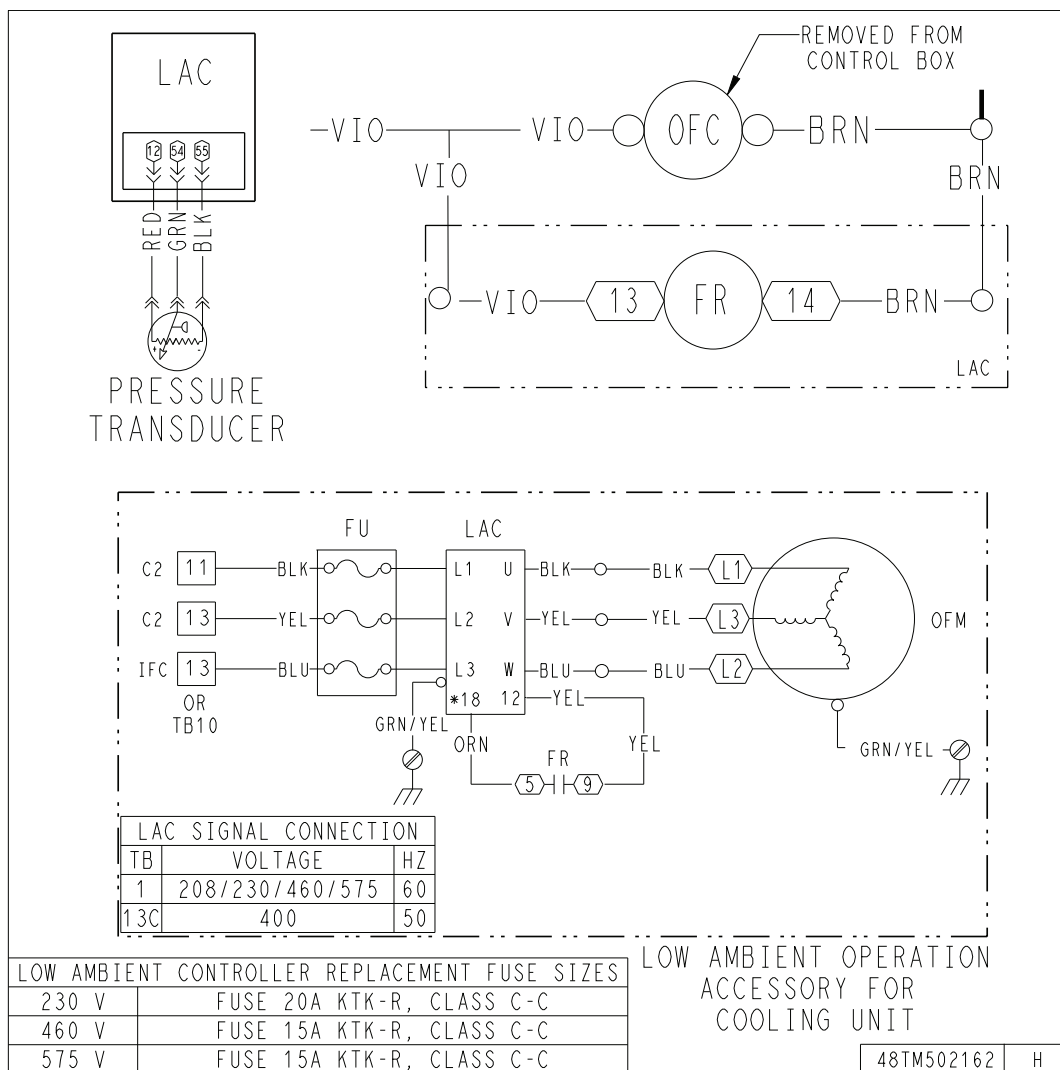
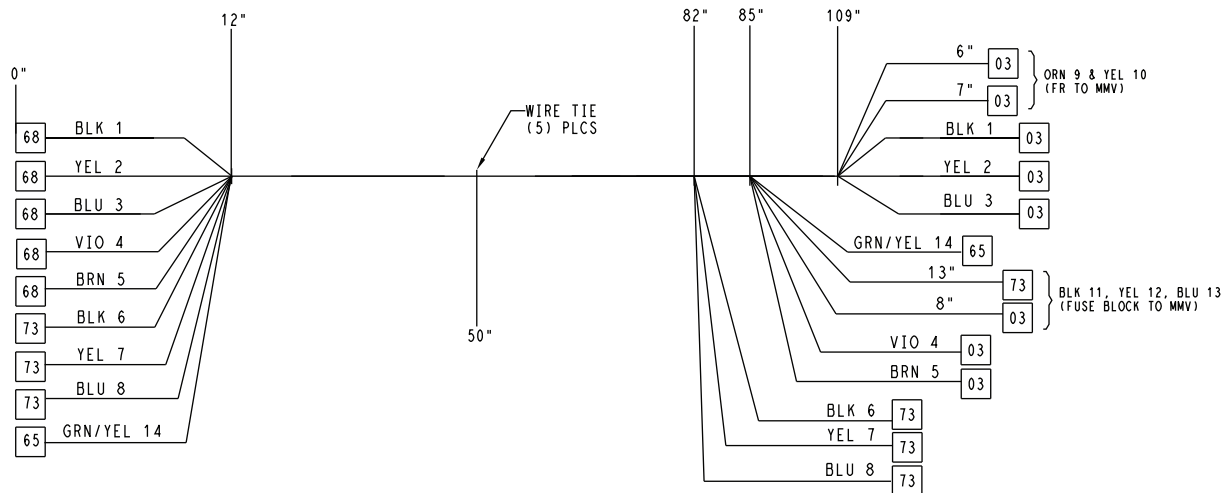

Fig. 4 — Wiring Diagram – Cooling Unit
Fig. 5 — Wire Harness Diagram – Cooling Only
The following wiring refers to Fig. 4 (wiring diagram) and Fig. 5 (wire harness).
- d. For 400-3-50 units, move the orange control wire from TB-1 to TB-13C on the LAC as indicated in Fig. 4.